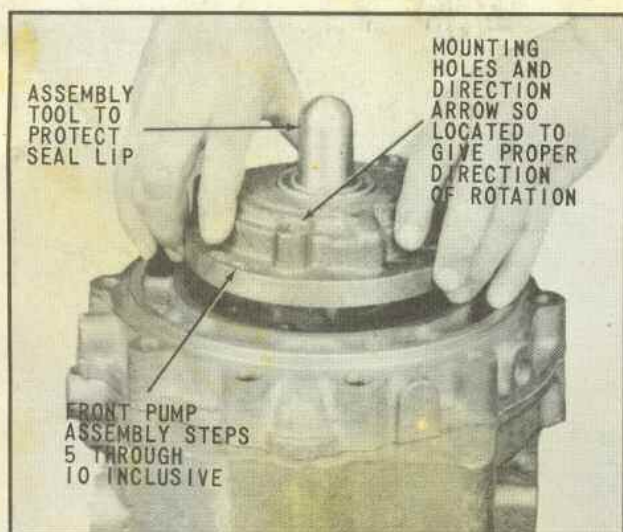

Fig. 97 Mounting Front pump
11. Place assembled transmission on rear face of coupling in upright position, as shown in (Fig. 97). Inspect upper exposed adapter face for dirt and obstructions, then lubricate and install front pump gasket.
13. Use a suitable tool to cover the splined portion of the input shaft and thereby protect the rubber lip on the oil seal during assembly of front pump, (Fig. 97).
14. After checking the following items, place the front pump assembly, steps 5 through 10 inclusive, squarely down over the protruding input shaft and assembly tool, (Fig. 97).